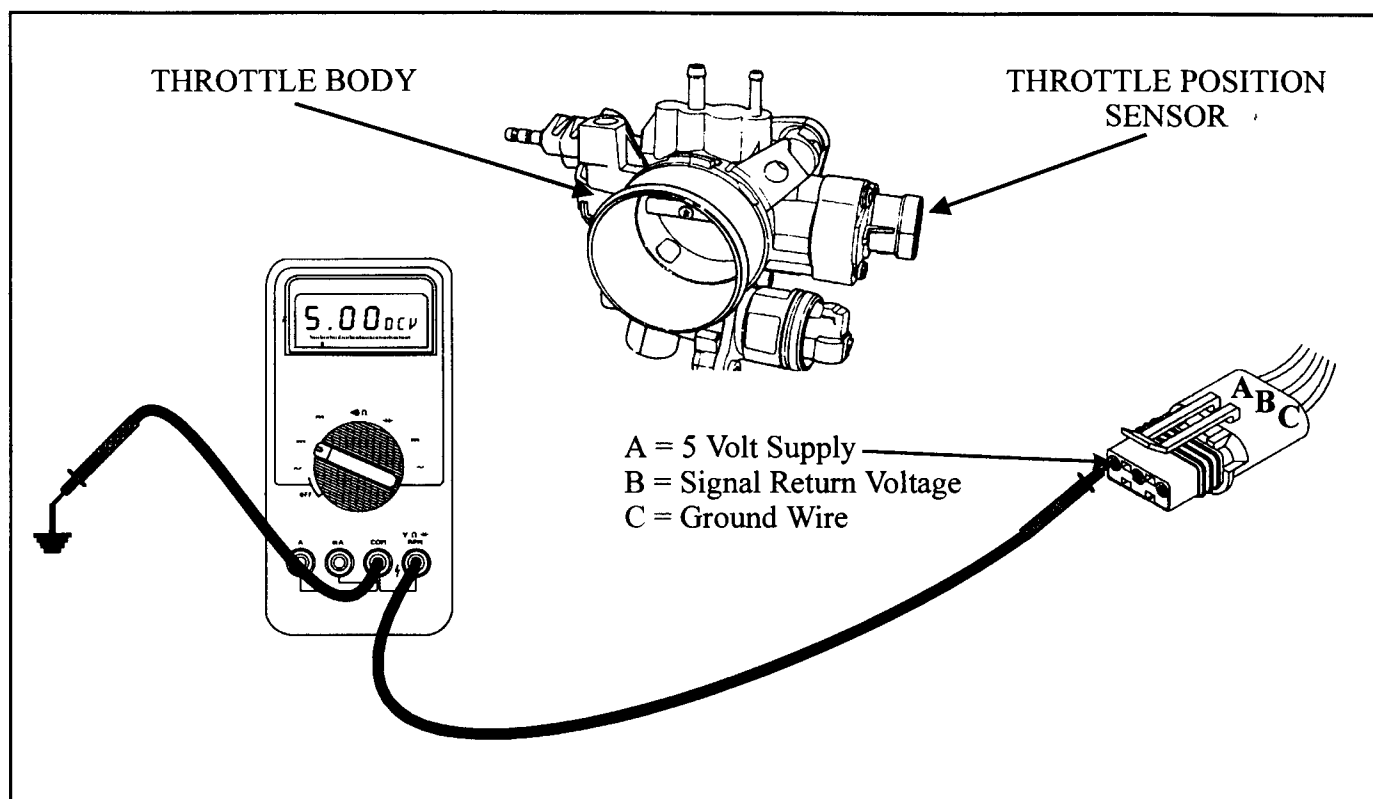

Figure 44
- Locate and unplug the TPS on the throttle body as shown in Figure 44. With the engine off, turn the ignition to the "ON" position. Set the meter to DC volts and place the negative lead to the negative battery post. With the positive lead check terminal A in the harness connector for approximately 5 volts as seen in Figure 44. If voltage is not seen, a bad PCM (Engine Computer) may be the problem as it supplies the 5 volt feed to the TPS. It would be wise to first verify that the wire itself is not severed from the PCM to the TPS by performing a continuity check across the wire. All vehicles up to and including model year 1995 the check should be made from terminal 6 in the PCM connector to terminal A in the TPS connector. For 1996 and later vehicles the check should be made from terminal 61 at the PCM to terminal A in the TPS connector. If continuity is seen across the wire and there is not 5 volts going to the TPS, the PCM will need to be replaced. If 5 volts is seen at the TPS connector, go to the next step.